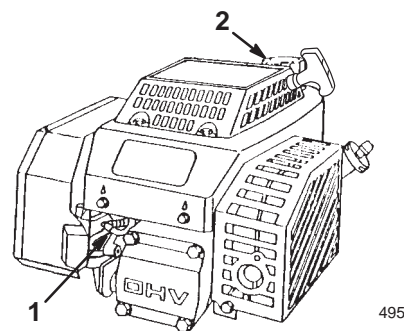

Figure 1
1. Disconnect the wire from the spark plug (Fig. 1).